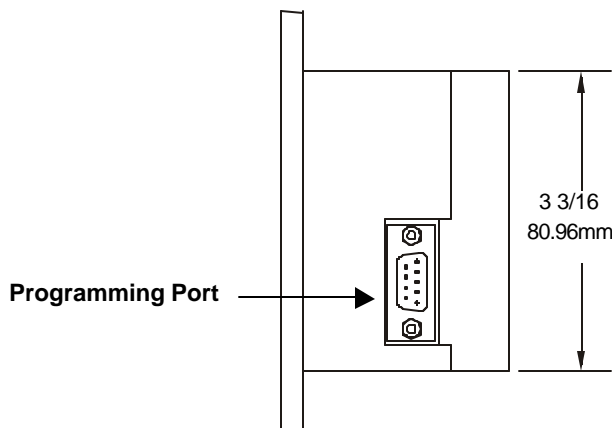

Figure 2.1 –Right-end View Network Model
2. Cut the host panel as described in the Figure 2.1 - Figure 2.6.